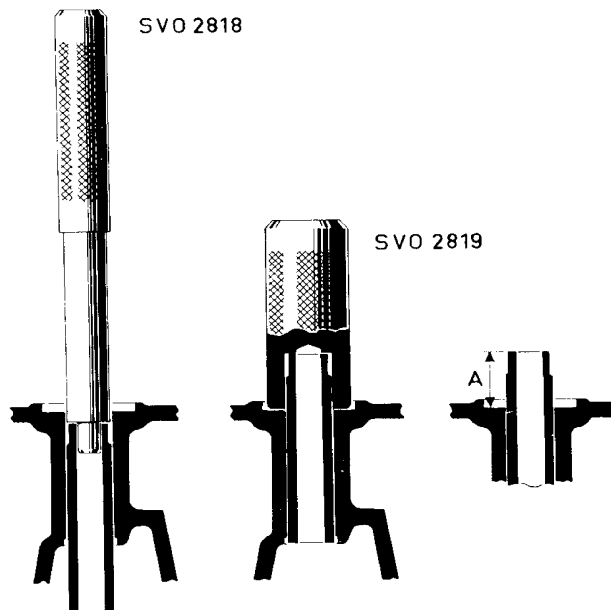

Fig. B4. Replacing the valve guides
1. Press out old guides with SVO 2828, see Fig. B4.
2. Press in the new guides, using drift SVO 2819, which gives the correct pressing-in depth. See Fig. B4.